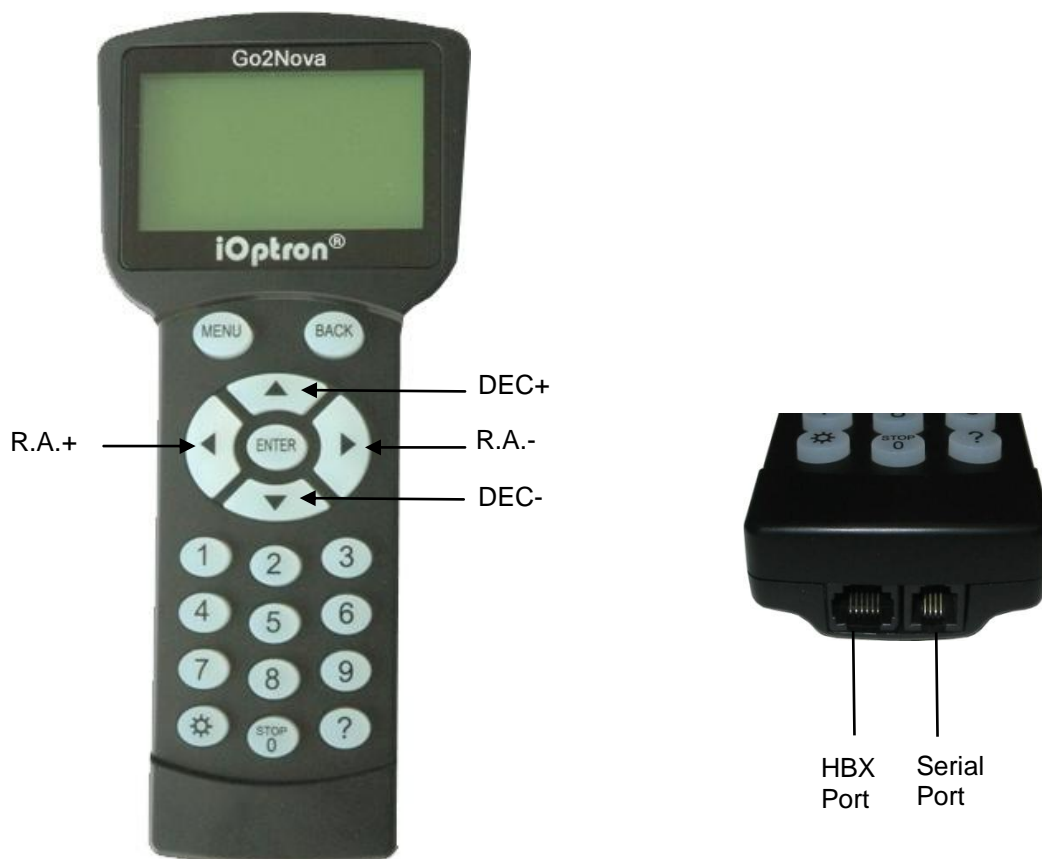

Figure 8. Go2Nova[®] 8407+ hand controller
The Go2Nova[®] 8407+ hand controller (HC) shown in Figure 8 is the standard controller for a CEM40 mount. It has an integrated heater that ensures the LCD display will work at the temperature as low as -20°C(-4°F). It has a large LCD screen, function, direction, and number keys on the front; a red LED reading light on the back; and a HBX (6-pin) and a RS232 serial port (4-pin) at the bottom.